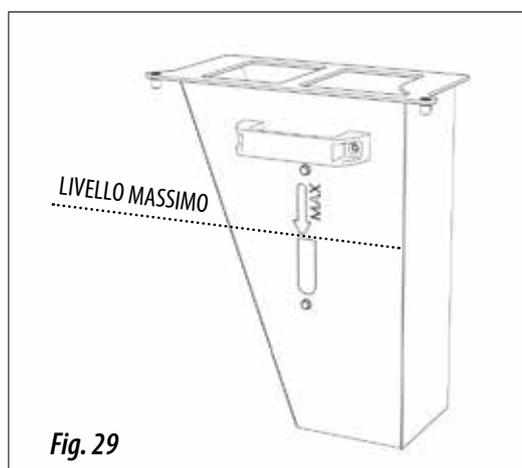

Fig. 29
**IMPORTANTE:** NON SUPERARE IL LIVELLO MASSIMO INDICATO SULLA SCATOLA DI RACCOLTA (Fig 29).